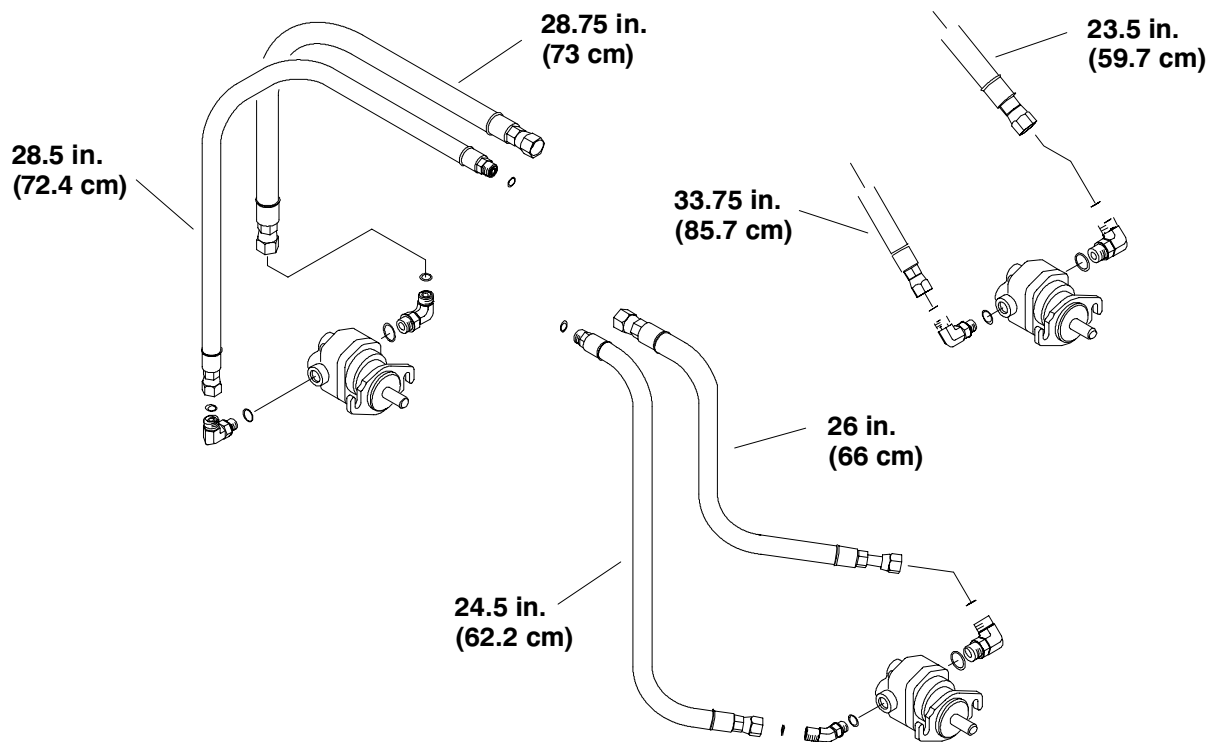

Figure 1
2. Using Figure 1, locate and remove the hoses that need to be replaced.
3. Replace old hoses with the appropriate new hose. The length of each new hose is shown in Figure 1.